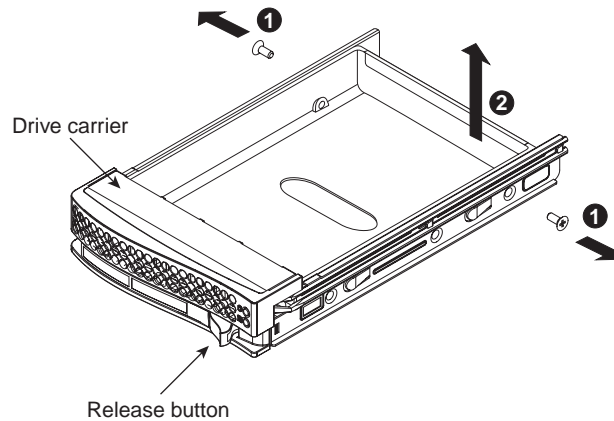

Figure 5-3 Removing the Dummy Drive from the Carrier
1. Remove the two screws securing the dummy drive to the drive carrier (see Figure 5-3).
2. Lift the dummy drive out of the drive carrier (see Figure 5-3).